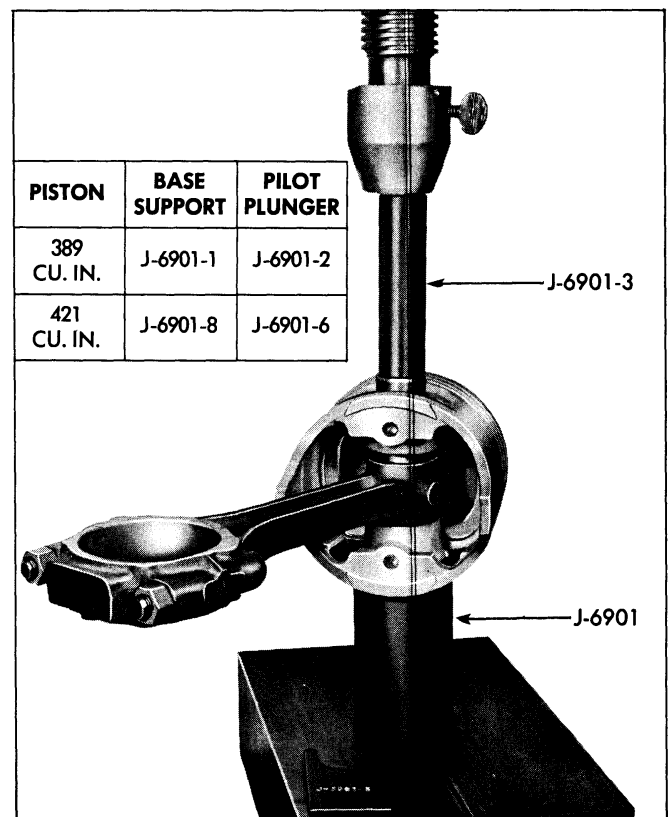

Fig. 6-69 Installation of Piston Pin
4. Place tool J-6901-3 in piston pin and press pin into piston and connecting rod (Fig. 6-69) until piston pin bottoms against plunger of tool J-6901. Piston must turn freely on pin. If piston binds on pin, disassemble, hone piston pin bosses slightly and reassemble.